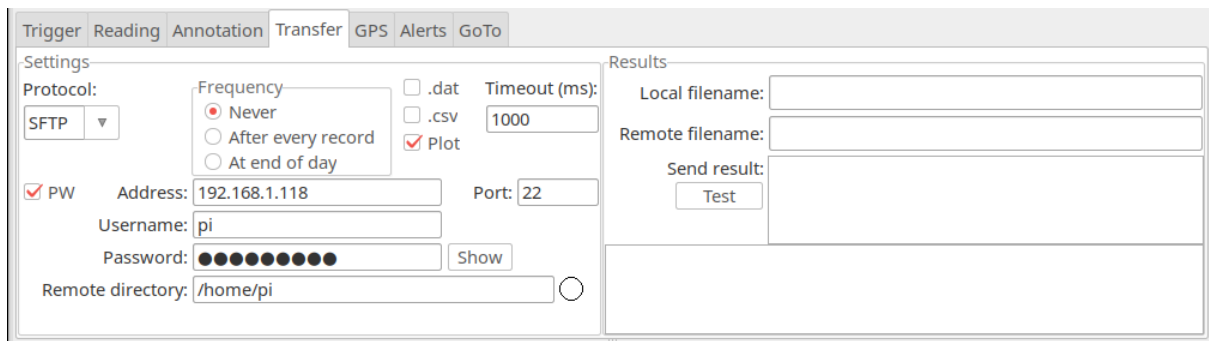

Figure 7.37: Log Continuously Transfer tab
**Transfer file** The .dat file can be sent via FTP, SCP, or SFTP to a server by making settings on the left side of the Transfer tab (shown in Fig. 7.37)